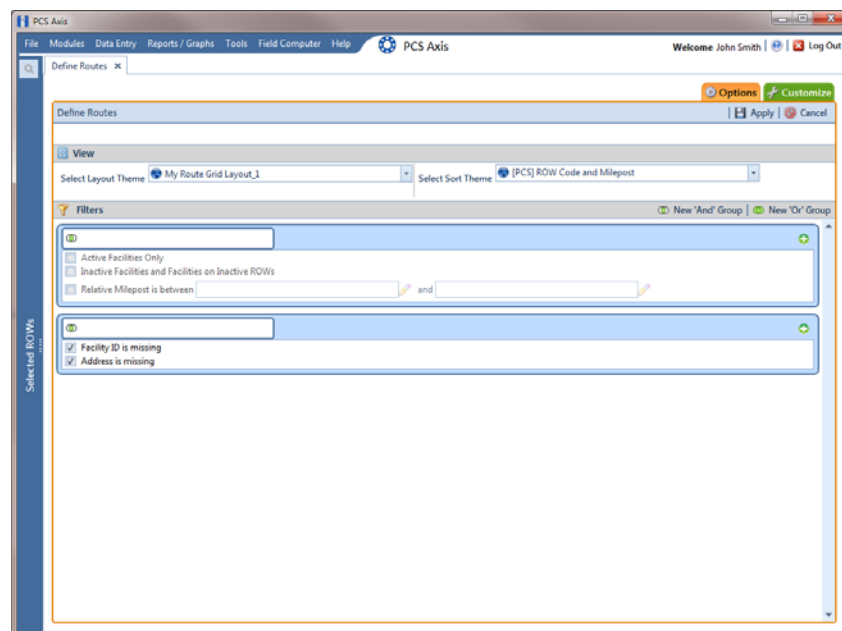

Figure 8-50. Options
- 12** To apply one or more filters to the selected route and the *Define Routes* grid (Figure 8-50, page 405):